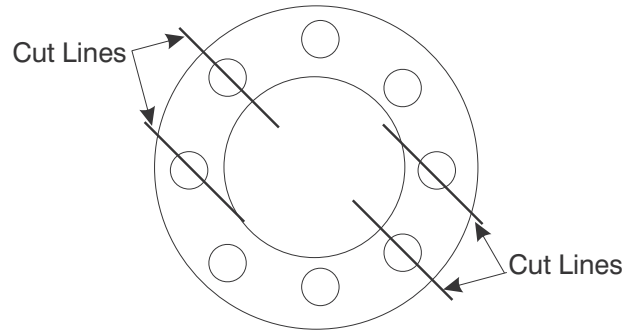

Figure 8-23. Cutting Pattern for Shock Absorber
6. Use a sharp knife or hack saw to cut through the Shock Absorber (15), and remove it from the End Cap. See Figure 8-23.